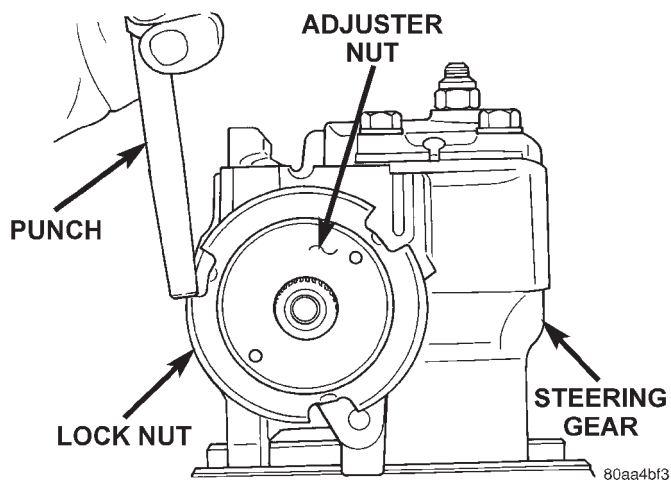
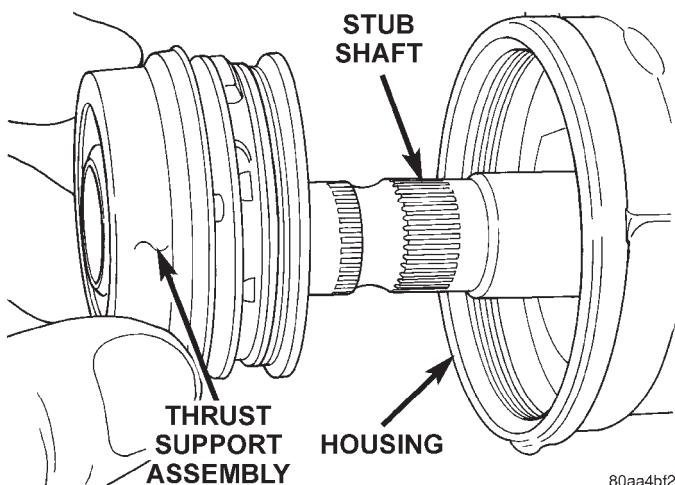

Fig. 9 Lock Nut and Adjuster Nut
Fig. 10 Thrust Support Assembly
- (1) Remove lock nut (Fig. 9).
(2) Remove adjuster nut with Spanner Wrench C-4381.
(3) Remove thrust support assembly out of the housing (Fig. 10).